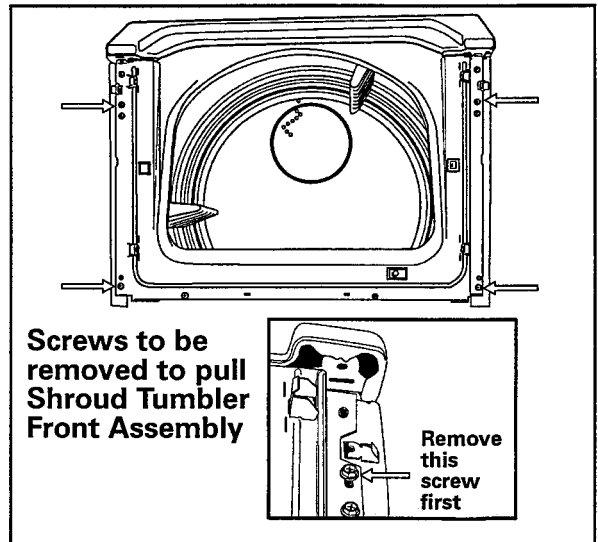

Figure 6-1
**NOTE:** *Remove the lowest outside screw at each corner and then the top screw on each side. Leave the four inner screws in place. (See Figure 6-1)*